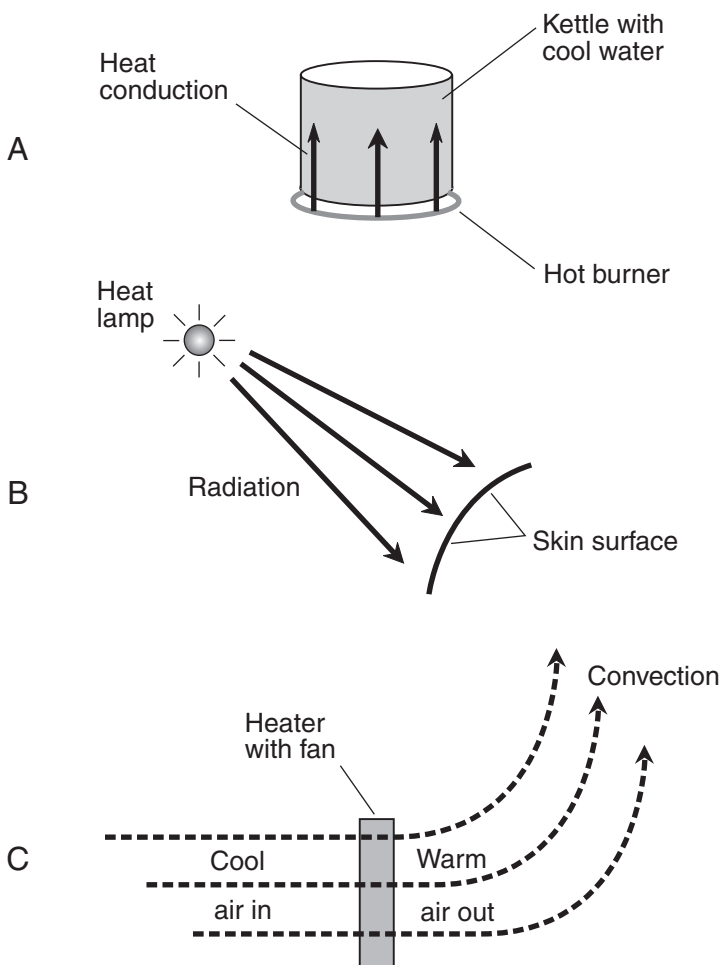

Figure 1-1
If you place a kettle of water on a hot stove, heat is transferred from the burner to the water. This is *conductive heat*, also called *conduction* (see Figure 1-1, part A). When an *infrared* (IR) lamp shines on your sore shoulder, energy is transferred to your skin surface from the filament of the lamp. This is *radiative heat*, also called *radiation* (see Figure 1-1, part B). When a fan-type electric heater warms a room, air passes through the heating elements and is blown into the room, where the heated air rises and mixes with the rest of the air in the room. This is *convective heat*, also called *convection* (see Figure 1-1, part C).